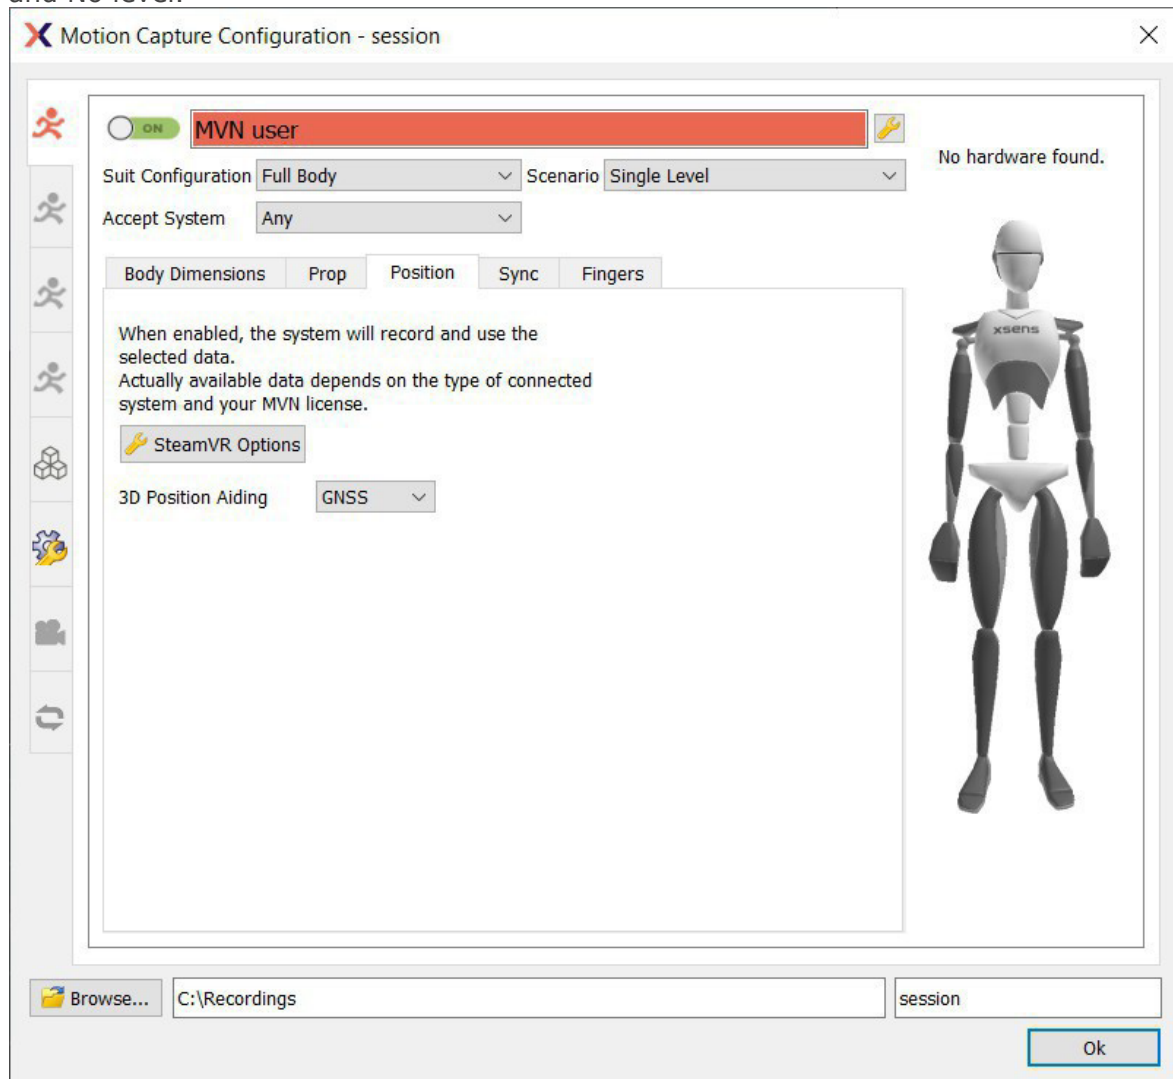

Figure 75: Position tab in the Motion Capture configuration
When configuring a new session, open up the Position tab (Figure 75) and select the GNSS option. When this is enabled, the system will record and use the data collected from the GNSS antenna. The scenario can be set to 3 scenarios: Single level, Multi level and No level.
3. Follow the normal procedure in setting up a system. To enable positional aiding, go to the Position tab (Figure 75)